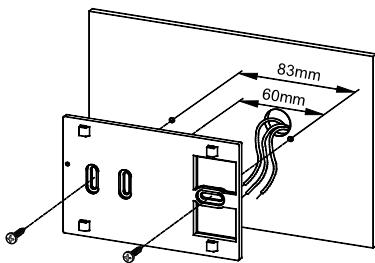
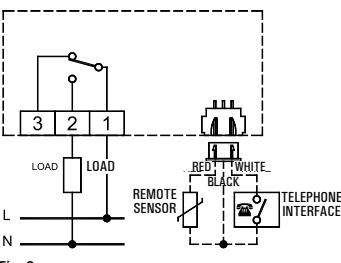

Fig. 2
Fig. 3
- Fix the plate directly on the wall or onto 2 or 3 module junction boxes by means of the two holes for screws (distance between centres: 60 mm or 85mm), taking care to pass the wires through the opening as shown in Fig. 2.
- Make electrical wirings by passing the wires through the rectangular opening in the wall plate (Fig. 2), and according to the diagram in Fig. 3.